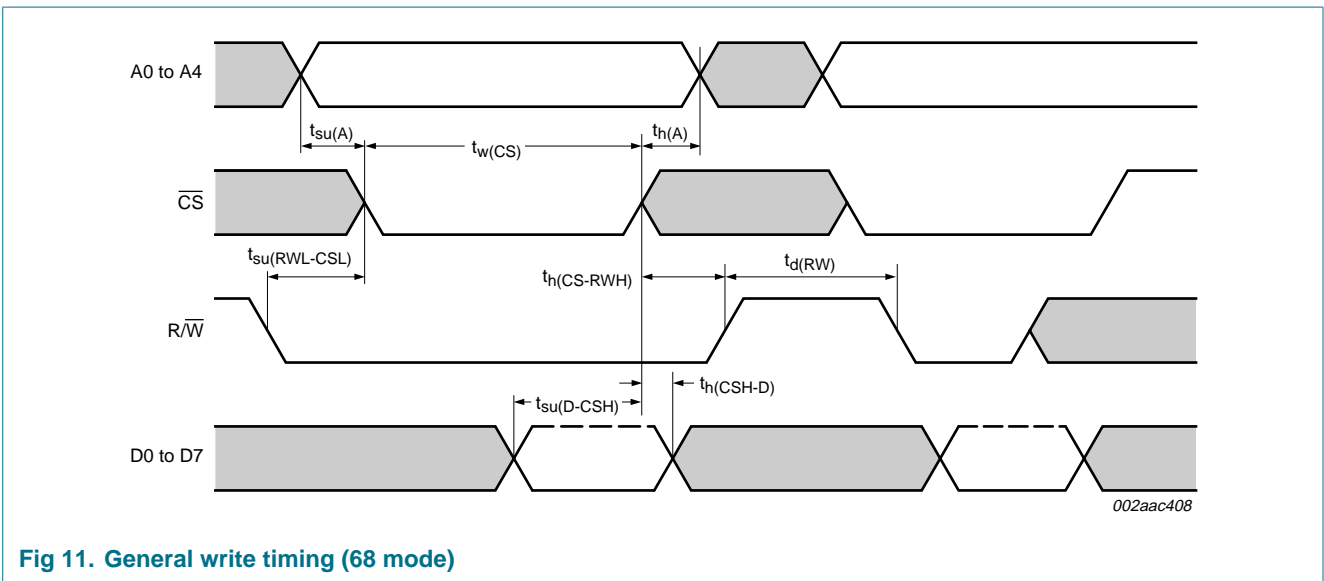

Fig 11. General write timing (68 mode)
- (1)  $\overline{\text{CS}}$  timing during a write cycle. See Figure 11.